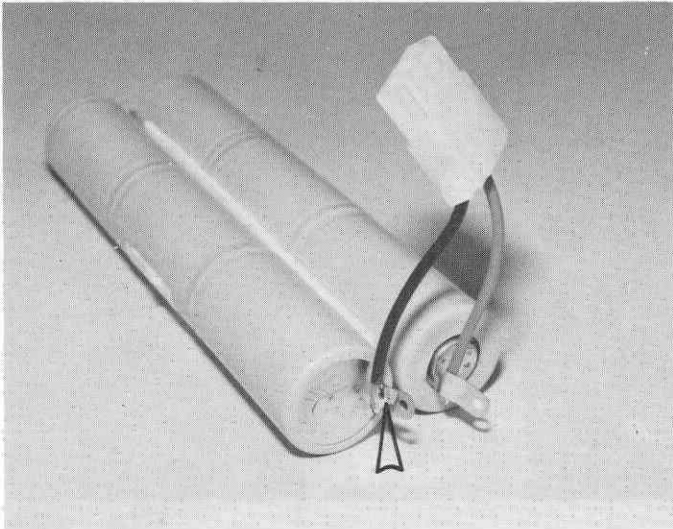

Fig. 184
□ **Fig. 184** In this photo, the arrow is pointing to the negative side. Solder the black wire to this tab, as shown.